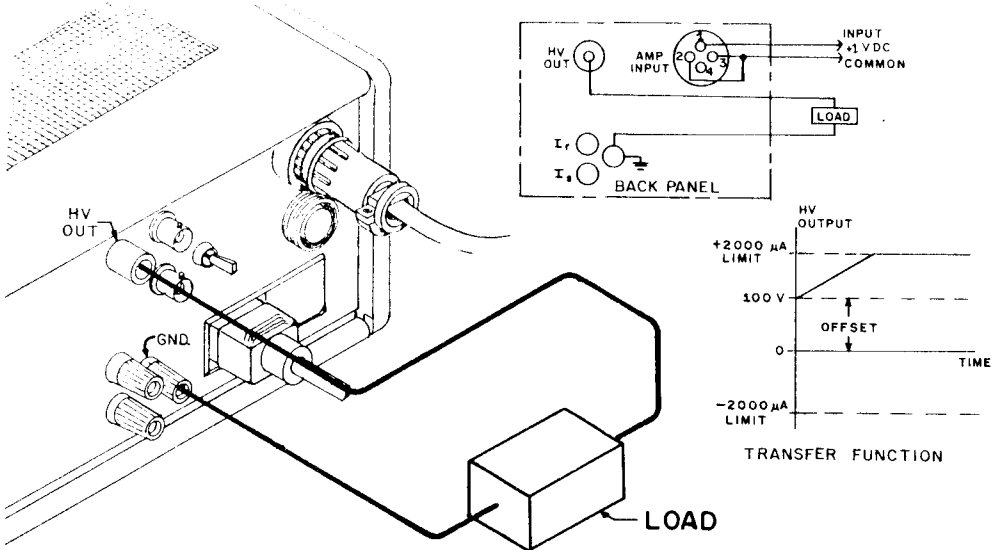

Figure 86. Example of Rear Panel Connections
f. At the rear panel, make the connections (see Figure 86):